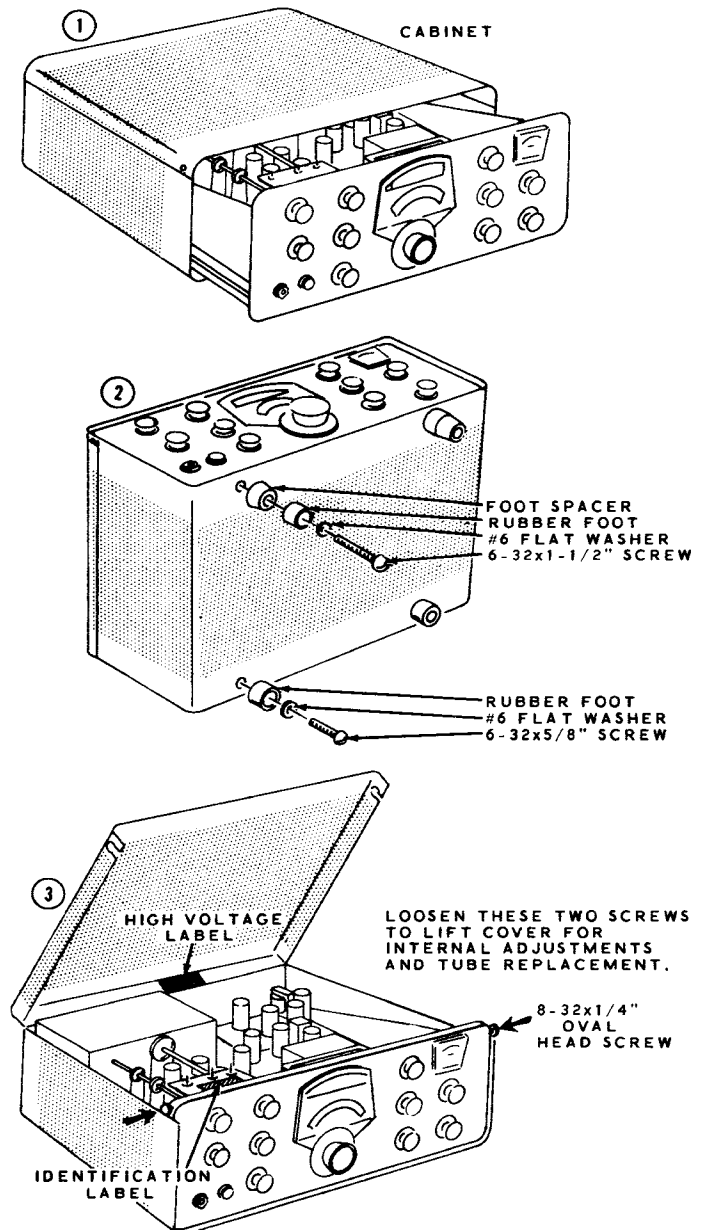

Figure 1-6
Refer to Figure 1-6 for the following steps.
1. Select a location for the label where it can easily be seen when needed, but will not show when the unit is in operation. This location might be on the control bracket. See Figure 1-6.